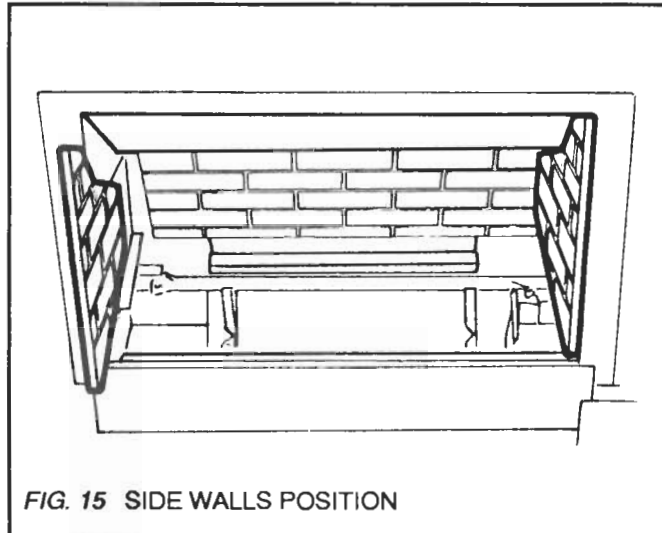

FIG. 15 SIDE WALLS POSITION
12.2. Place the ceramic side walls in position at the sides of the firebox. The sides are left and right handed. The sides should locate in the sloping channels near the bottom of the fire box sides and in the gap between each side of the fire box and the black top baffle. (see figure 15).